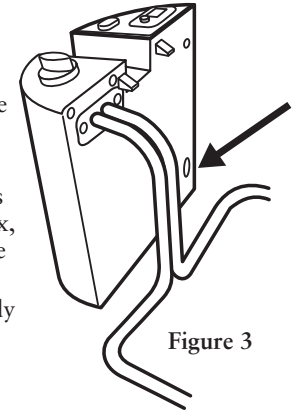

Figure 3
5. Using a narrow slotted screwdriver or pen, gently press the recessed reset button on the back of the control box, located on the lower right hand side as indicated by the arrow (*see figure 3*).